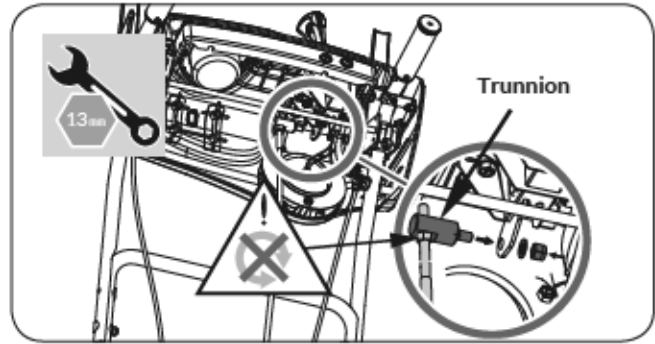

Figure 6c
3. Lift up the shift rod. Insert the trunnion into the shift rod hole on the bottom of the shift lever under the dashboard. Install the washer and M8 nut. Tighten securely. (See **Figure 6c**)
The speed adjusting lock nut at the upper end of the shift rod was adjusted before leaving the factory. Do NOT loosen the lock nut. Doing so may cause the machine speeds to become dis-ordered, including Fwd and Rev. (See **Figure 6c**)